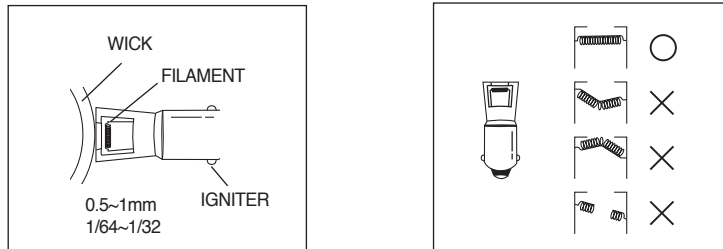

Fig. 10
**NOTE :** Do not use excessive force when pushing the ignition button. This can cause the igniter to catch the wick and may prevent ignition from occurring. Pushing too lightly on the Ignition button can prevent ignition from occurring by keeping the igniter too far from the wick. As Fig. 10 (Page 9) shows, the optimal distance between the igniter and the wick is 1/64- 1/32 inch (0.5 to 1mm). If it is difficult to ignite the heater, the filament on the igniter might be bent, broken or misshaped.
If the automatic ignition system does not work, check the filament on the igniter (see Fig. 10) (page 9) to see if it is broken or misshapen. A small distortion can be fixed with a match stick. If the filament is stretched or broken, replace the igniter with a new one. **NOTE: Remove the batteries before replacing the igniter.** Refer to section "CHECKING THE IGNITION SYSTEM" on page 3 for instructions on how to replace the igniter.